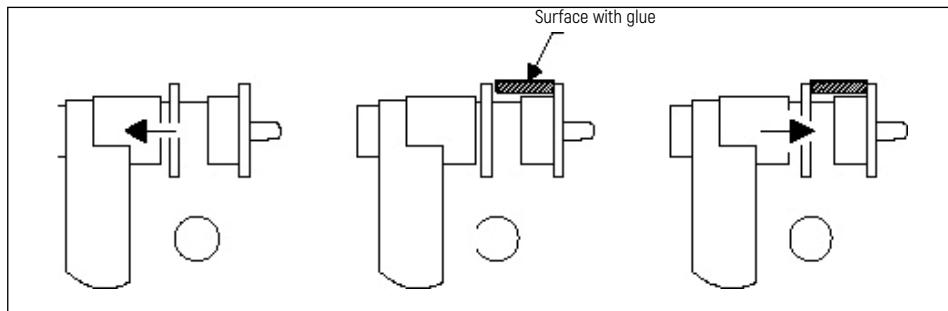

Fig. F3.12 Use of lead with distance gauge
- 2) Arrange the balance weights corresponding to unbalance grams (inner-side unbalance amount) displayed on the left window to the end of the pull-out gauge. See Fig. F3.12.